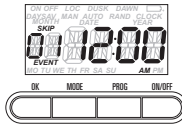

Fig. 7
1. From the **MAN**, **AUTO**, or **RAND** screen, press **PROG**. The screen displays a flashing **01**. (Fig. 7)